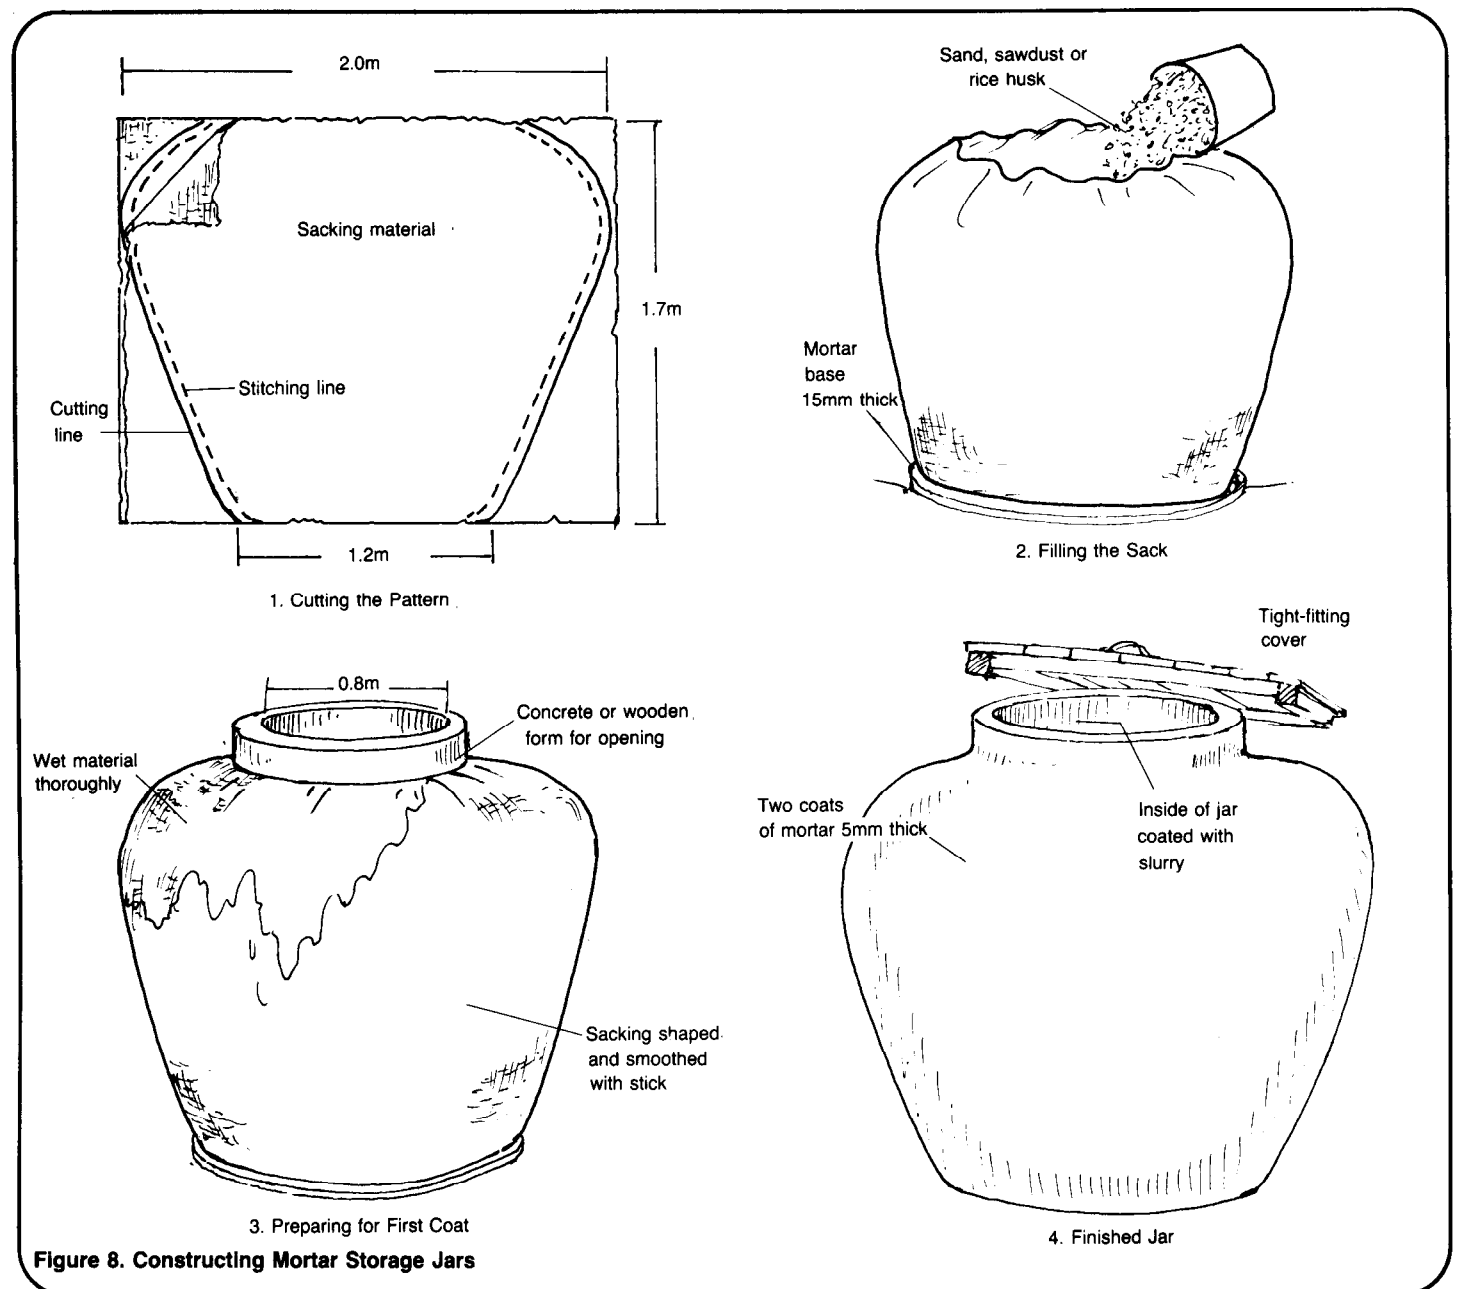

Figure 8. Constructing Mortar Storage Jars
Unreinforced mortar storage jars can be constructed by people with little or no previous experience. The jars are an inexpensive and relatively easy way to store rainfall for drinking water. Small, 25m³ capacity, as well as larger 4m³ jars can be built following the basic construction steps given below. This example is for a 4m³, 4000-liter, storage jar like the one shown in Figure 8.
1. The first step in the construction process involves preparation of the mold. Place two pieces of gunny cloth together and mark them out as shown in Figure 8. The bottom width should be marked at 1.2m and the top width at 2.0m. Draw a curved line along the sides connecting the top and the bottom and sew the sack together with heavy tread or twine. The sack height should be 1.7m.
3. Once the bottom plate dries, place the sack narrow end down on the plate and begin filling it with sand, sawdust or rice husks. The weight of the filling material will hold the sack on the plate. Make sure the mortar base sticks out from under the sack, as shown in Figure 8.
pushing a sharp object like a nail into the side. Be sure to build up any thin spots and add mortar to weak places. Finally, build up the jar thickness and shape as shown in Figure 8. Place a small tap near the bottom of the jar.